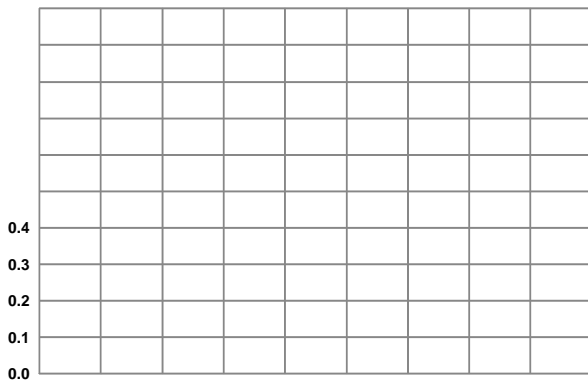

Figure 4. ALS Spectral Response (Normalized)
7. Refer to Figure 4 for more information on spectral response.